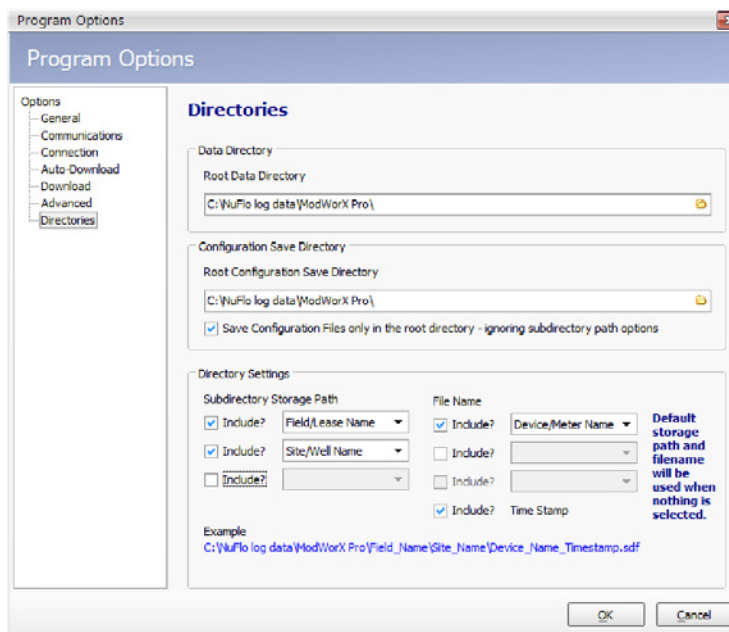

Figure 14.5
2. When the Program Options dialog opens, click the **Directories** option from the list at the left side of the screen (Figure 14.5).
2. When the Program Options dialog opens, click the **Directories** option from the list at the left side of the screen (Figure 14.5, page A-18).